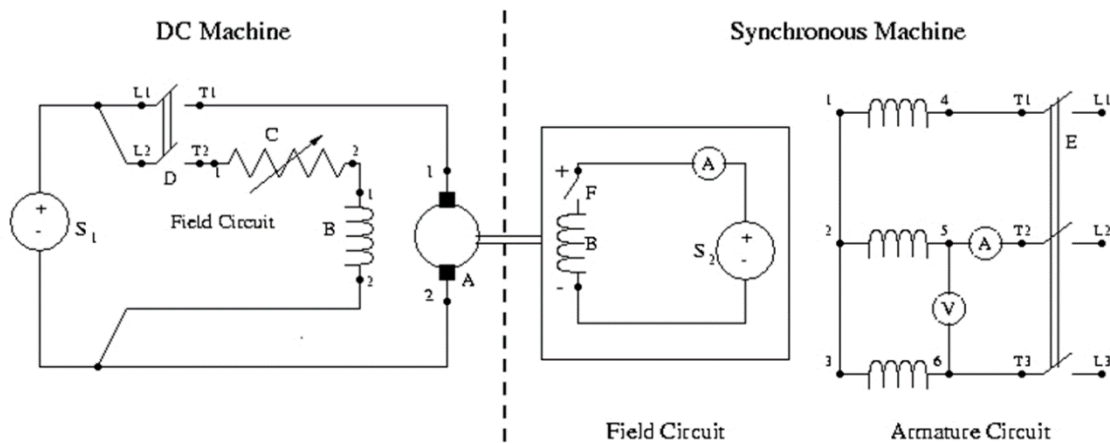

Figure 1
- 1) Connect the synchronous generator as shown in Figure 1
- 6) Connect the load resistors (wye-connected) to the synchronous generator as shown in Figure 1.